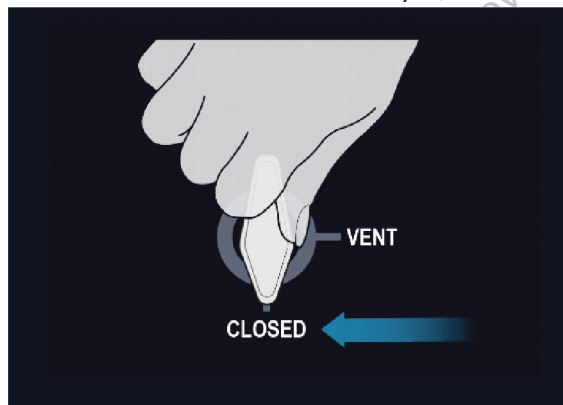

Figure 8. Vent Valve - Fully Closed
1. On the rear of the Console, ensure that the Vent Valve is in the CLOSED position (see Figure 8).